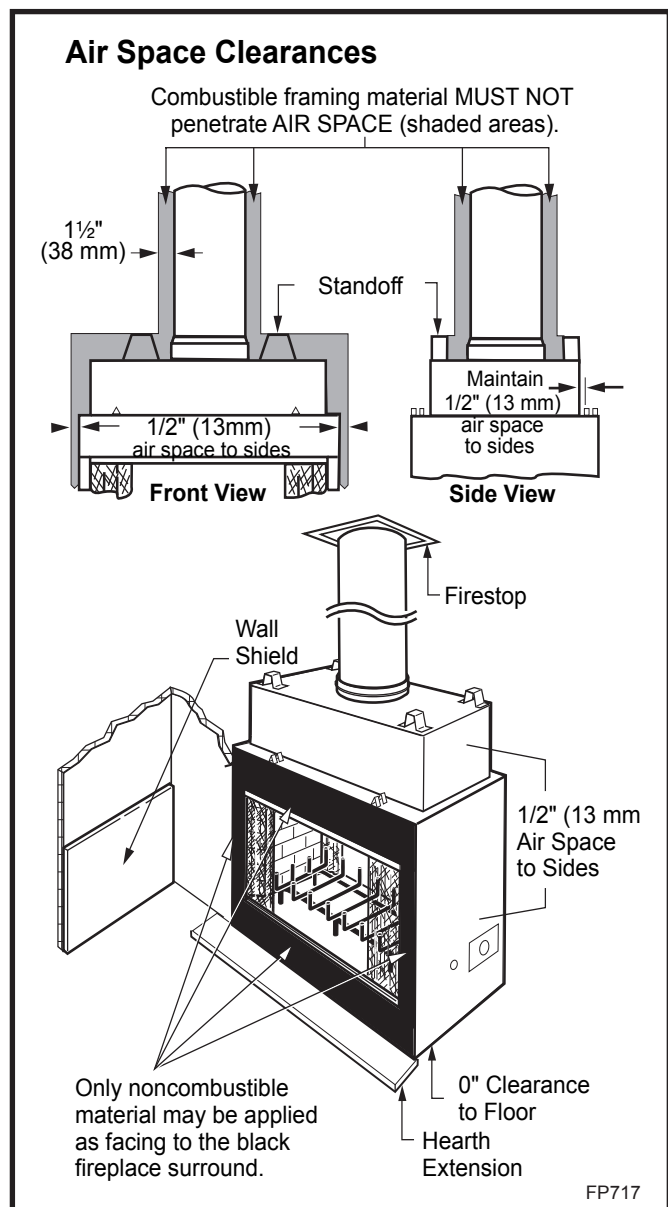
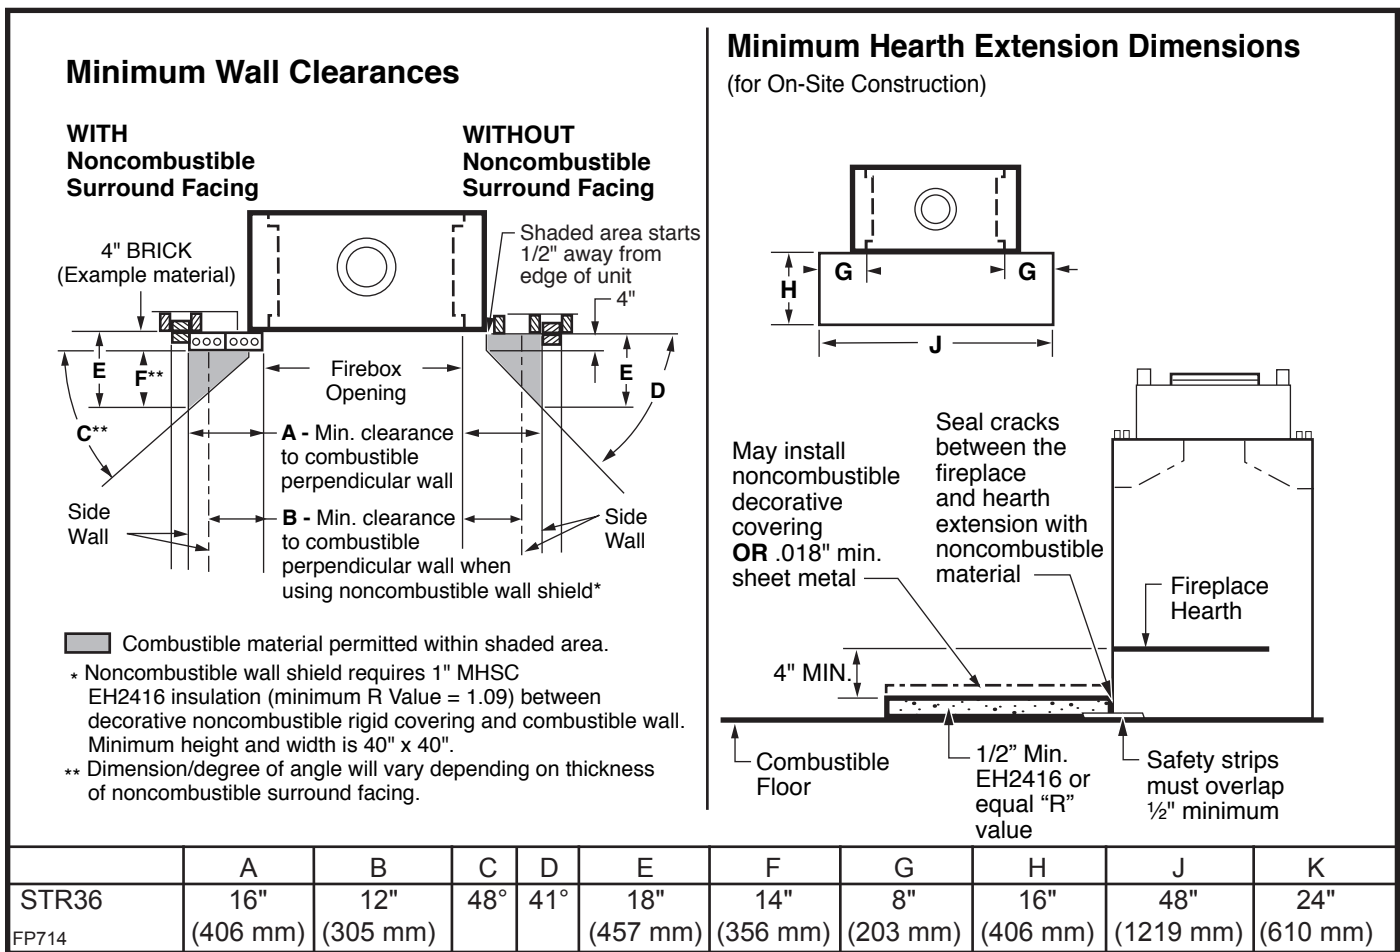

Fig. 20 Minimum clearances to combustibles.
Fig. 24 Combustible side wall protection and hearth extension dimensions.
There must be an air space (1½" (38 mm) with SK8 between outermost portion of chimney sections and any adjacent combustible surfaces. (Fig. 20) (Combustible surfaces include burnable materials such as: ceiling members, joists, flooring, combustible insulation and roof structures.)
CAUTION: All joints between the finished wall and the fireplace surround (top/sides) must be sealed with non-combustible material to prevent cold air leakage into the room. Only noncombustible material may be applied to the facing of the fireplace surround. (Black painted area) (Fig. 20)
NOTE: No side wall protection is required for fireplaces installed at 45° to two (2) side walls (corner installation). Adjacent combustible side walls that are within 16" (406 mm) of fireplace opening must be protected with a specifically built wall shield as described in Figure 20 & 24. Often a decorative surround or vertical portion of the mantel is desired. If this is constructed of any combustible material, it must be within the safe zone indicated in Figure 24.
All joints (top, bottom and sides) where wall or decorative facing material meets fireplace surround must be completely sealed with a noncombustible material. (Figs. 20 and 24)
The special wall shield design described in Figure 20 is an alternate method of adding protection to side walls. Rt must =1.85 minimum.
A hearth extension is required to protect a combustible floor in front of the fireplace. Refer to Figure 24 for minimum dimensions and mounting detail.
The hearth extension described in Figure 24 must be a durable noncombustible material with a minimum (total) Rt value of 1.09; refer to Figure 25 for examples. The overall height (above a combustible floor), depth and width must be as indicated, with the extension centered to the fireplace opening.
The top of the insulation material must be covered with a noncombustible decorative covering or a piece of .018" minimum sheet metal, to protect hearth extension material. (Fig. 24)
Secure the hearth extension to the floor to prevent shifting, using trim molding or other similar means at three (3) outer edges. Seal crack between the fireplace hearth and hearth extension with a noncombustible material. (Figs. 24 and 26)
WARNING: HEARTH EXTENSION MUST BE INSTALLED IN ACCORDANCE WITH FIGURES 24 AND 25.